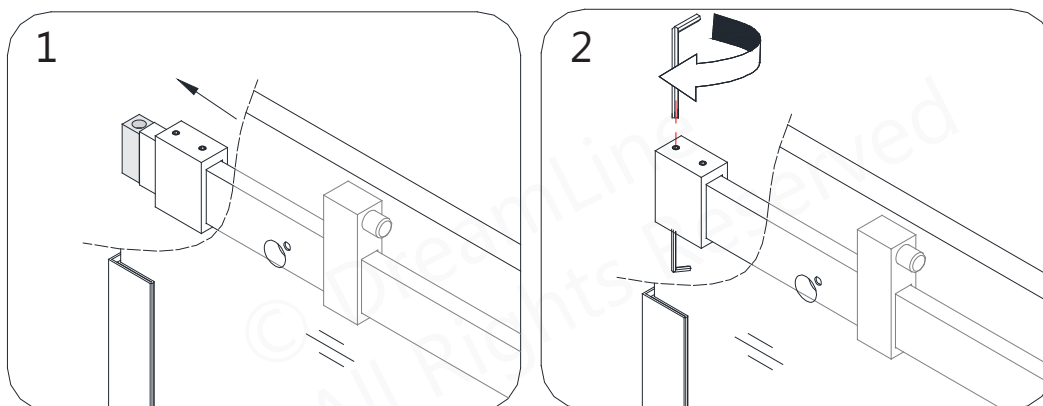

Fig 15
15. Align the panel end of the **Guide Rail (#04)** with the installed **Guide Rail Wall Bracket (#6b)**. Slide the **Guide Rail Bracket (#06a)** over the **Guide Rail Wall Bracket (#06b)** and tighten the set screws. **(Fig 15)**